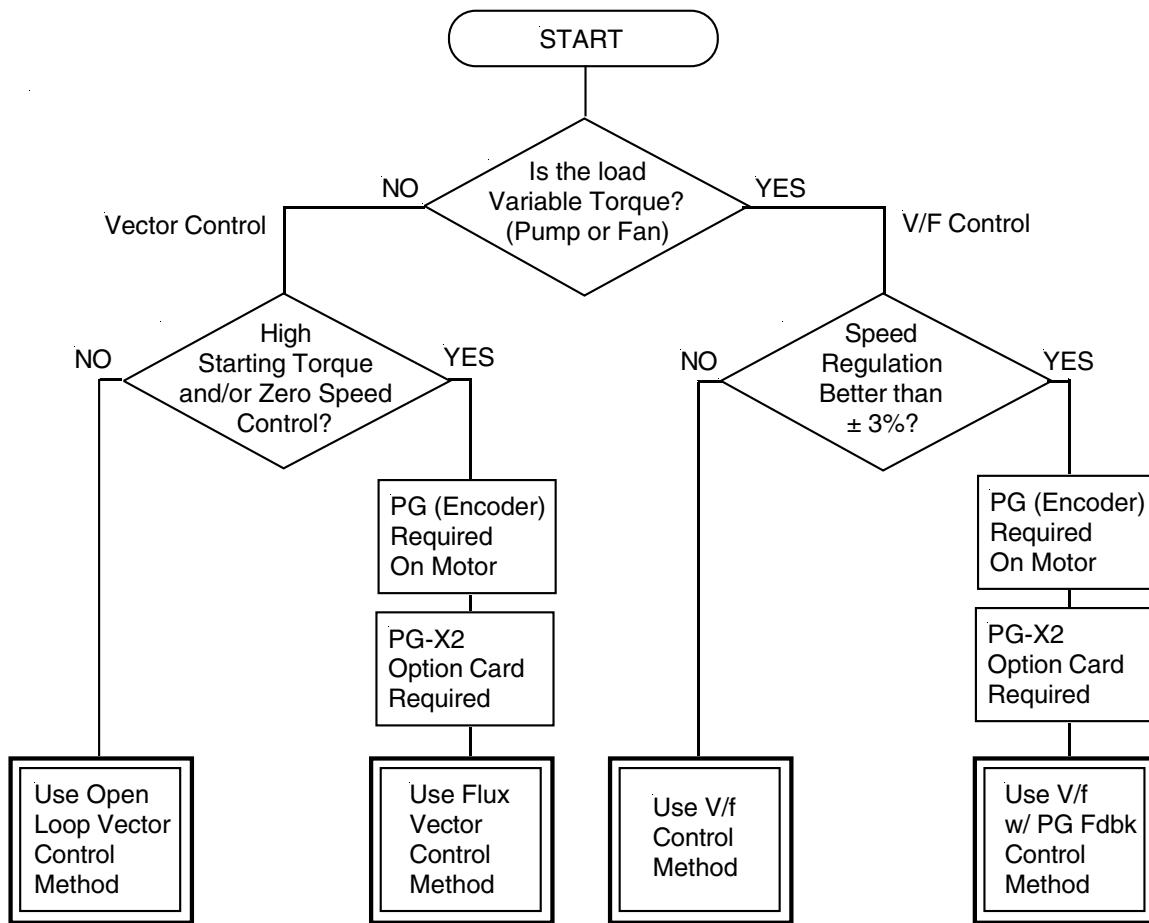

Figure 2-2. Control Method Selection Flowchart
- Determine the proper control method for the application using Figure 2-2.